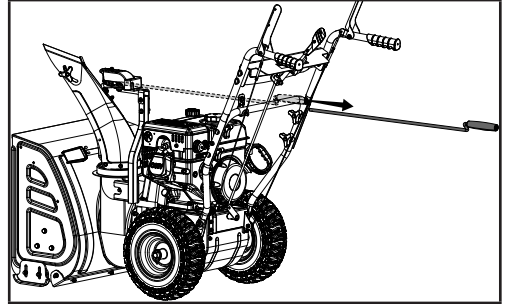

Figure 36
3. Remove the lever from the discharge chute bracket (Fig. 36).